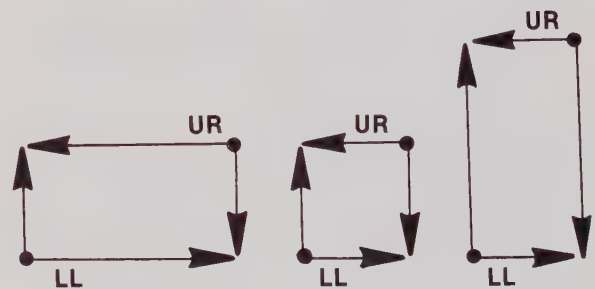

FIGURE 2-4
The scale or the window can be changed to any size by moving only two points—the lower left corner point and the upper right corner point of the rectangle. This is illustrated in Figure 2-4. Moving the Lower Left (LL) corner point or the Upper Right (UR) corner point of the window or scale box rectangle will change its size.